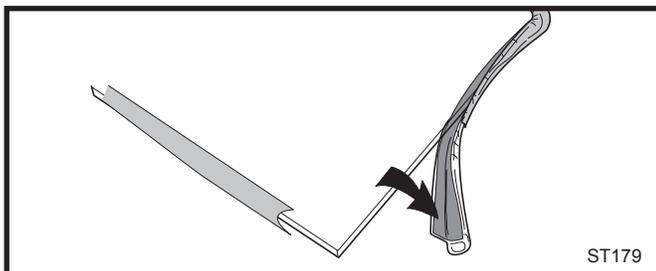

Fig. 38 Wrap the gasket material around the outside edge of the glass.
3. Starting on a long edge, remove about 6" of the protective paper strip and apply the flat adhesive face of the gasket around the outside-facing edge of the panel. Continue around the panel, applying about 6" at a time and being careful to not stretch the material. Do not overlap the gasket ends. (Fig. 38)